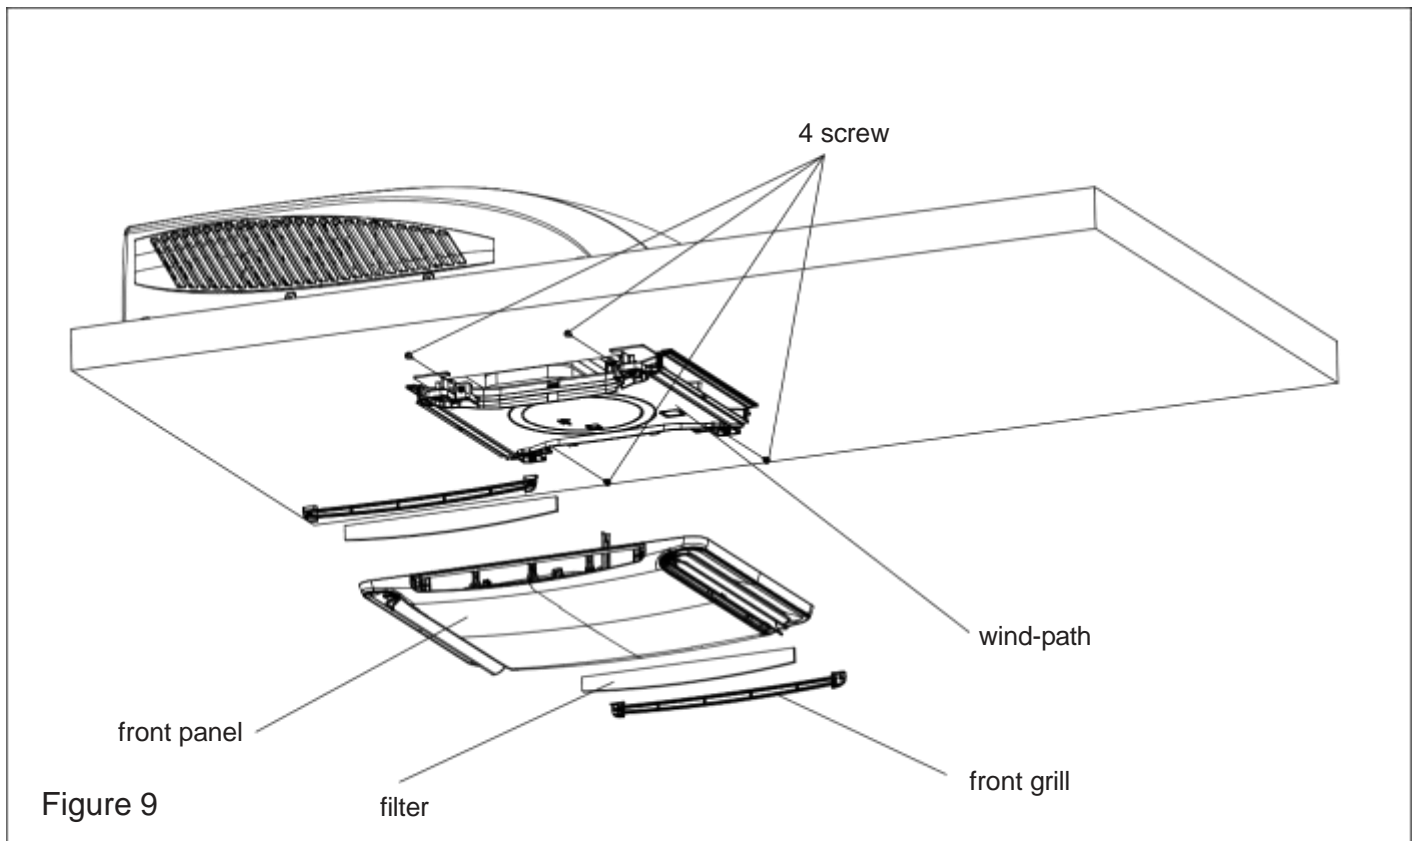

Figure 9
2. Secure the ceiling grille to the ceiling assembly wind-path with 4 screws. (see Figure 9).